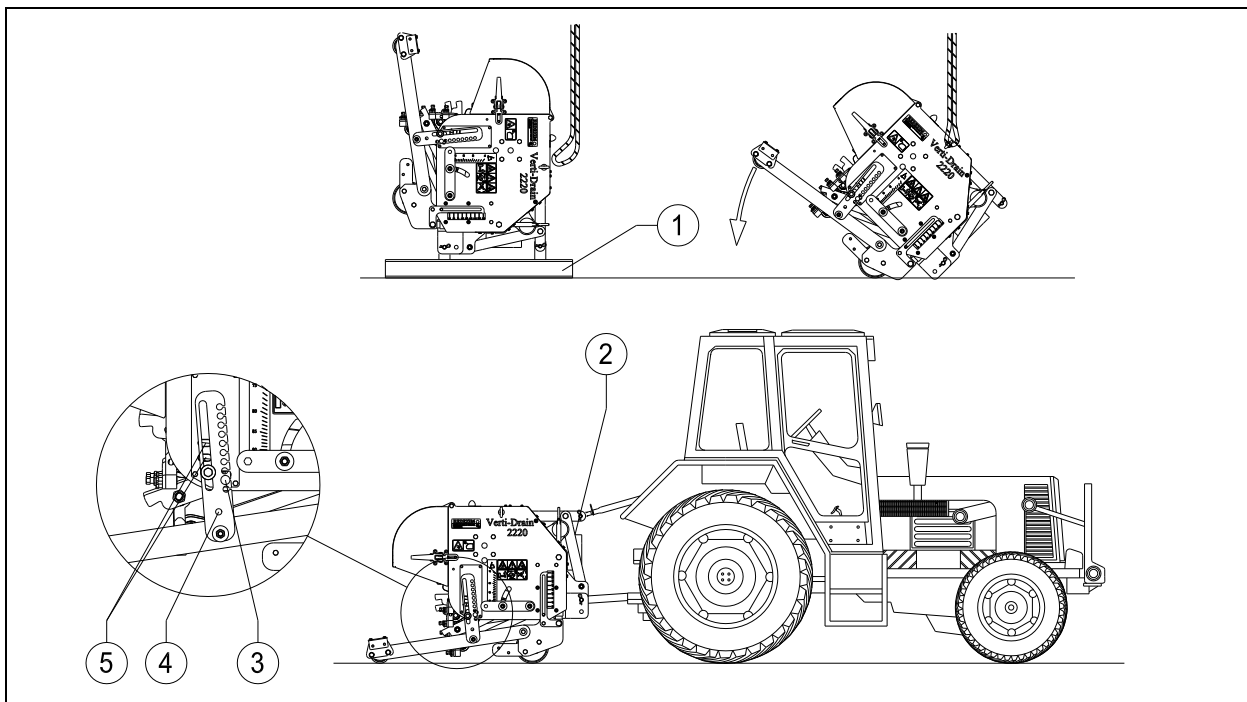

Figure 8
The machine is placed vertically on the pallet. To remove the pallet and to place the machine horizontally on the ground, take the following steps (see Figure 8):
- ☞ To prevent too much dragging of the rear roller in case of shallow pricking, pushing the protection pin (3) in one of the holes (5) will block the rear roller (see Figure 8).
- ⚠ **If the Verti-Drain is incorrectly attached to the tractor, the different PTO angles can cause vibrations in the driveline of the machine (see Figure 8). These vibrations can damage the machine and the holes in the ground.**